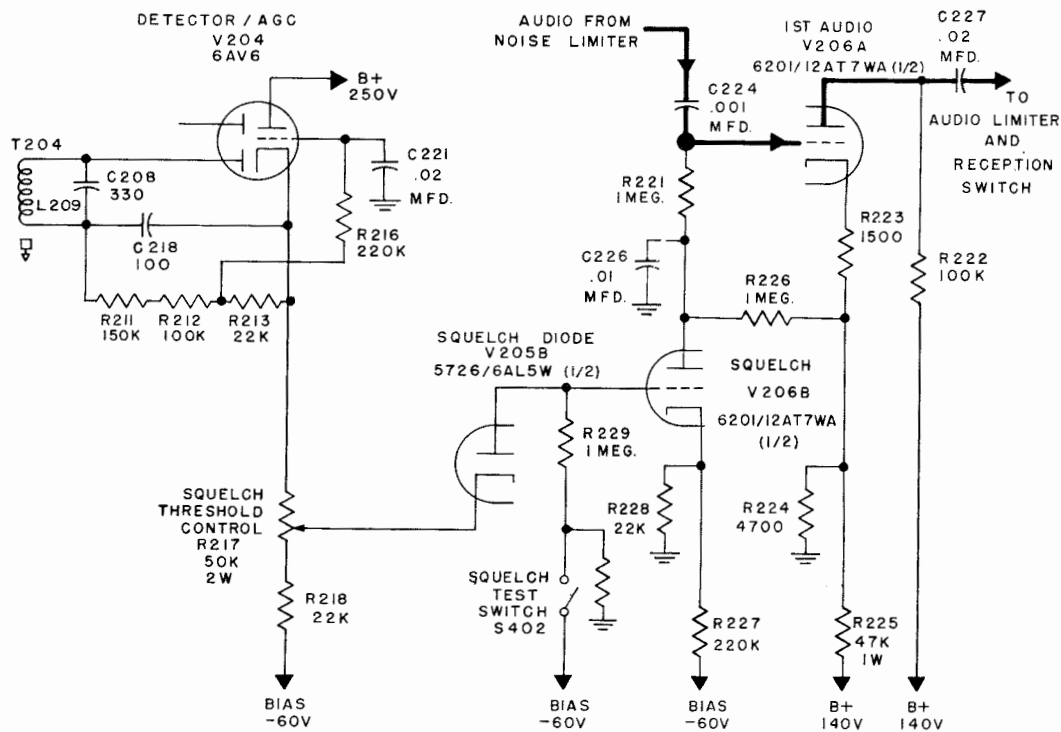

Figure 2-15. Simplified Schematic—Squelch and First Audio
(5) SQUELCH OR SILENCER CIRCUIT.—A squelch system consists essentially of a method of assessing the reception conditions and disabling the receiver when the desired signal is not present. In the simplified squelch circuit in figure 2-15 silencing of the receiver is accomplished by biasing the grid of the first audio amplifier, V206A, beyond cutoff. The squelch circuit is only operative in the A2-A3 reception position. One triode section, V206B, of a 6201/12AT7WA type tube is used as the squelch tube. The plate load resistor R226 of this tube is connected to the junction of the R224-R225 B+ voltage divider. With one end of R226 connected to the cathode of the first audio tube V206A and the other end to the grid resistor R221 of V206A, any current flow through R226 causes a voltage drop which makes the grid more negative with respect to its cathode and will bias the first audio to cutoff. When the squelch tube does not conduct, there is no voltage drop across R226 and the audio amplifier functions normally.